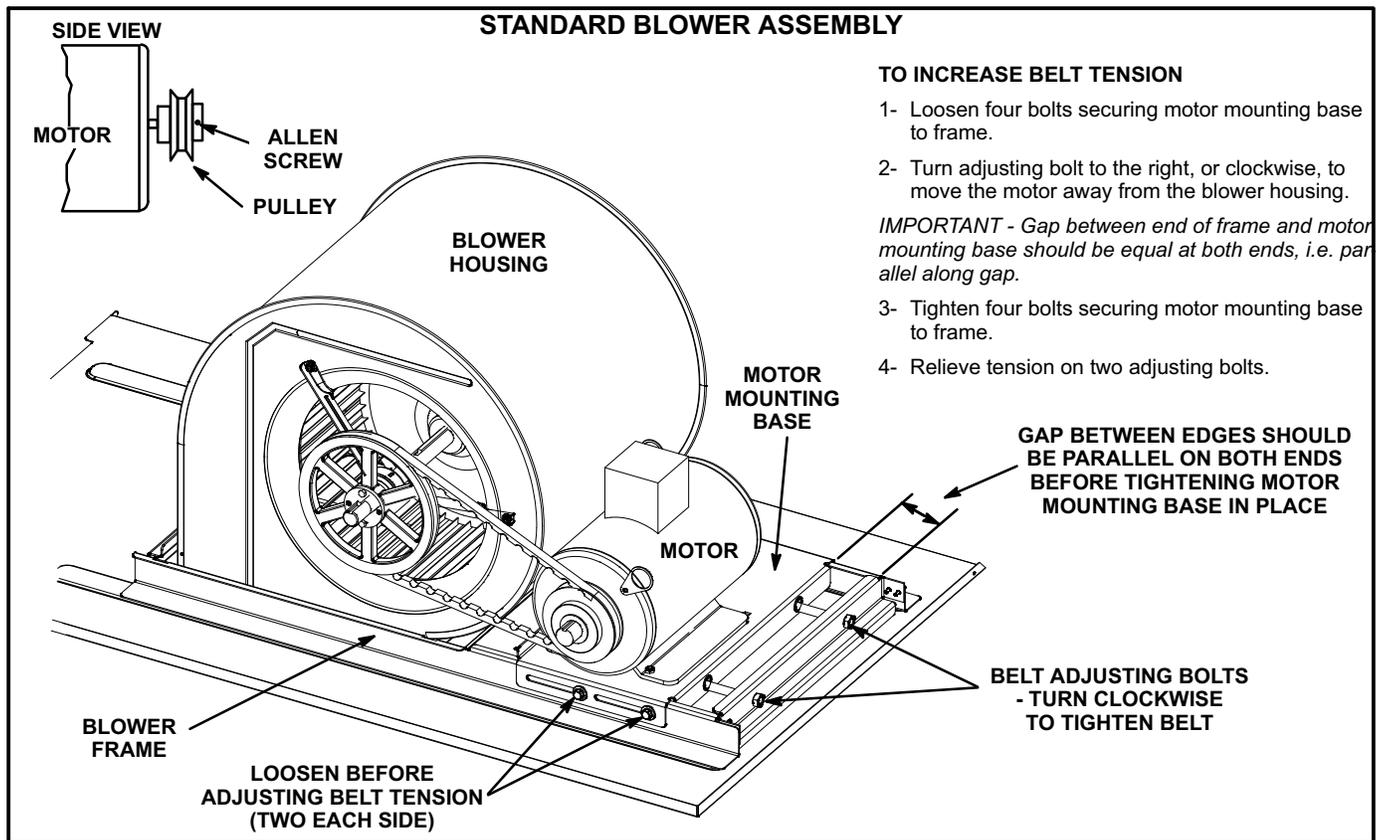

FIGURE 9
The blower assembly is secured to a sliding frame which allows the blower motor to be pulled out of the unit. See figure 9.
- 5- The blower RPM can be adjusted at the motor pulley. Loosen Allen screw and turn adjustable pulley clockwise to increase CFM. Turn counterclockwise to decrease CFM. See figure 9. Do not exceed minimum and maximum number of pulley turns as shown in table 2.
- 1- Loosen four bolts securing motor base to mounting frame. See figure 9.